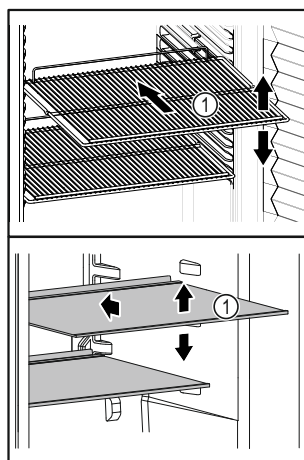

Fig. 59 Example illustration
- ☐ If shelves Fig. 59 (1) can be moved, adjust the shelves according to the height.